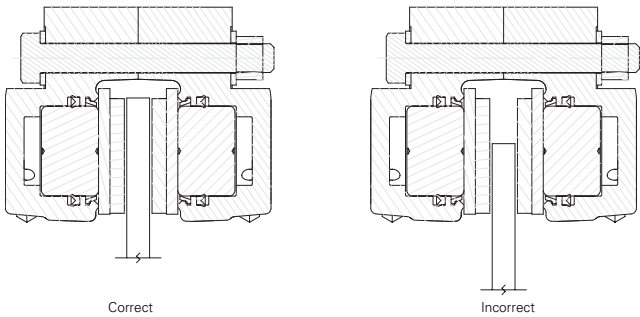

Figure 2
- 2.2.1 Align the caliper so that the friction pads make full contact with the discs. Partial engagement of the disc will greatly decrease the braking effectiveness of the caliper and cause malfunction. See Figure 2.